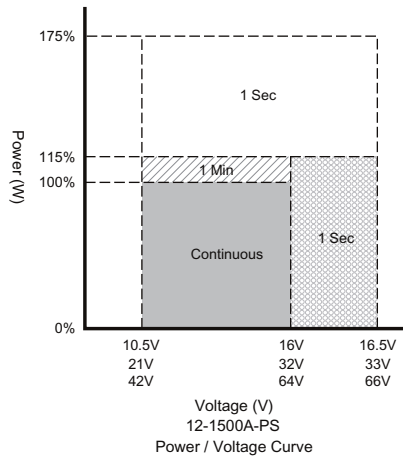

Figure 1. 12-1500A-PS
- ① Voltage range : Please refer to Figure 1
- ② Normal load Condition : Vin =12.5V/25V/50V, Vo=100/110/115/120VAC 80% Full load (PF=1.0)